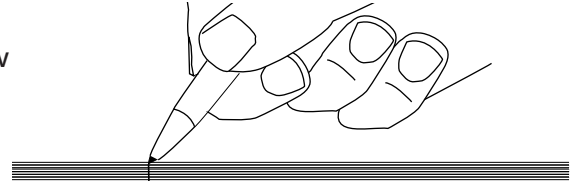

Figure 3
Step 2: Determine the configuration (both fiber count and fiber position) and mark the required length of the new ribbons with a permanent marker (Figure 3).